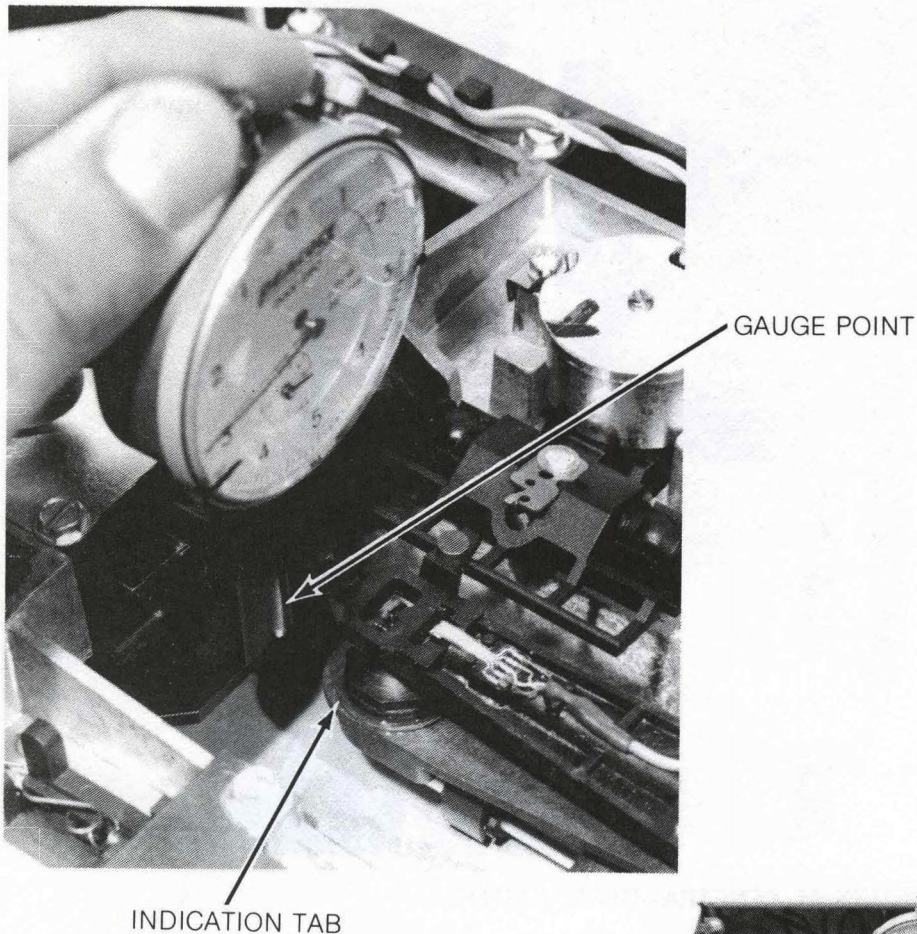

FIGURE 42. INSTALLATION CHECK
- e. The shaft that extends from the stepper motor can be used to move the head up far enough so the gauge point is indicating off the tab, on the side zero head as shown in Figure 42.